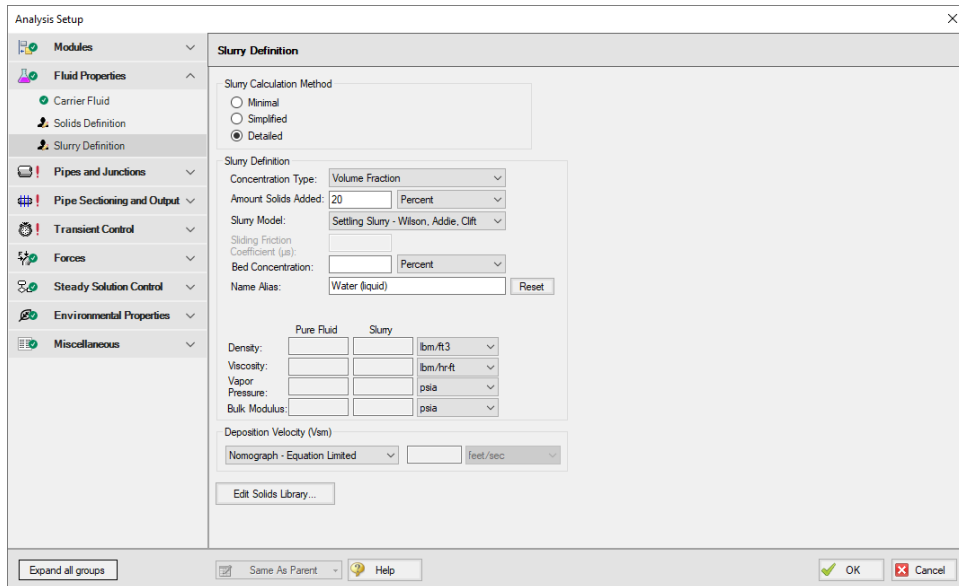

Figure 3: Slurry Definition panel
3. Slurry Definition panel (Figure 3)